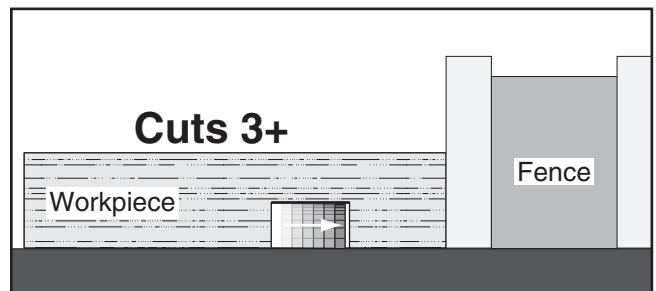

Figure 126. Additional single-blade dado cuts.
8. Make additional cuts (see **Figure 126**) in center of dado to clear out necessary material. Dado is complete when channel is completely cleared out.